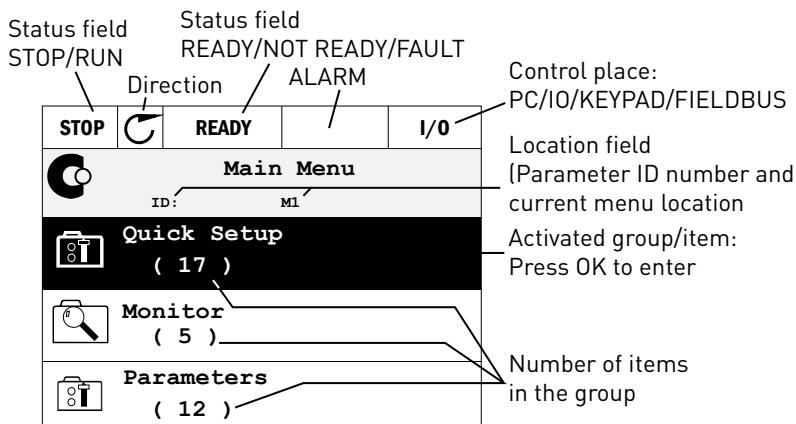

Figure 11. Main menu
**The Location field indicates your current location. The Status field gives information about the present status of the drive.** See Figure 11.